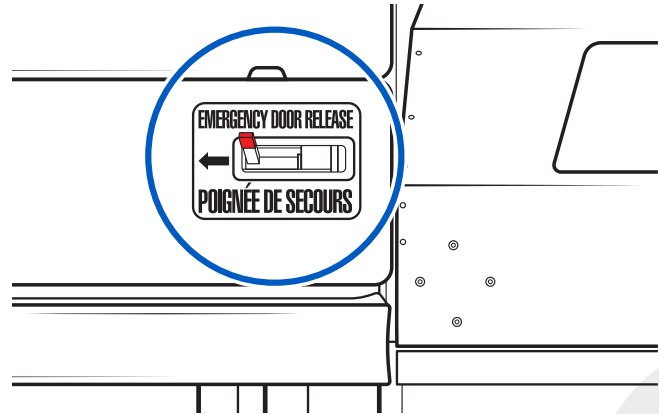

Figure 5 - LIOND emergency release handle
1. Slide the red lever above the front door to the left (front of the bus) to unlock the door (**Figure 5**).